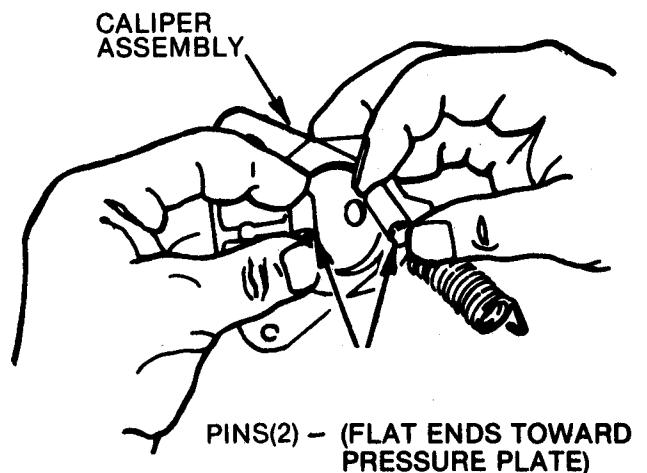

FIG. 3.4--INSPECT CALIPER PINS
6. Remove the 1/2 inch brake pad from the brake caliper assembly and inspect the caliper assembly to make sure that the pins move freely and that actuator linkage has adequate freedom of movement for positive braking operation (Figure 3.4). Make sure flat end of pins are installed toward the pressure plate. NOTE: If pins do not move freely, remove and clean before proceeding further. Lubricate the pins with dry graphite.